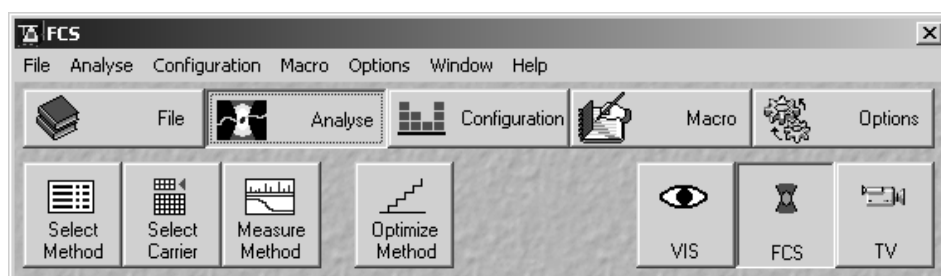

Fig. 3-7 Main menu
After clicking the **Start** button in the **ConfoCor 2 Switchboard** menu, the instrument is running and the **Main** menu appears (Fig. 3-7). From this moment the instrument can be almost entirely controlled by software.
- Click on the **FCS** button on the right-hand side of the **Analyse** subordinate toolbar in the **Main** menu (Fig. 3-7) to select the FCS detection head.
- This is done with the **Select Carrier** button of the **Analyse** toolbar subordinate of the **Main** menu (Fig. 3-7).